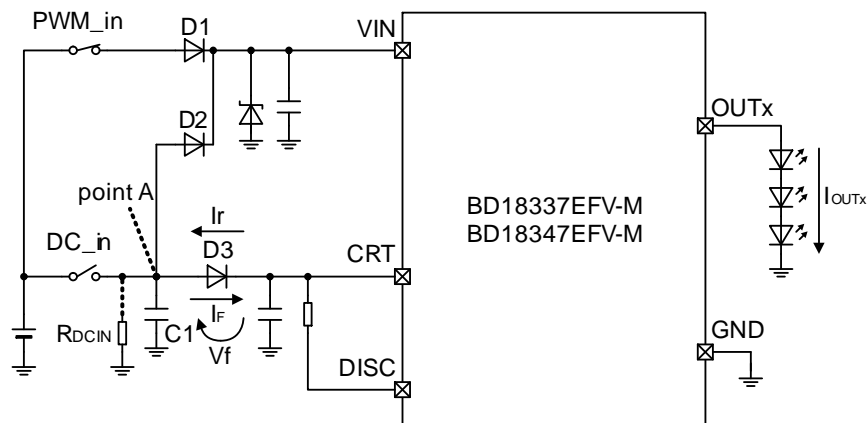

Figure 14. How Reverse Protection Diode Affects the CRT pin Ramp Up / Down Time
- (1) During the PWM dimming operation mode, Point A on Figure 14 is Hi-Z.
- (2) Reverse current I_r of D2 and D3 goes to Point A.